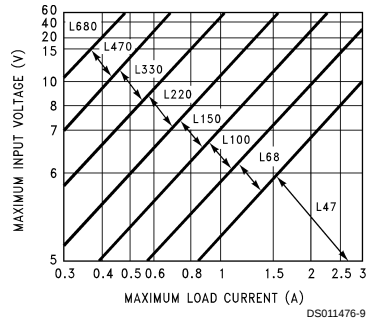
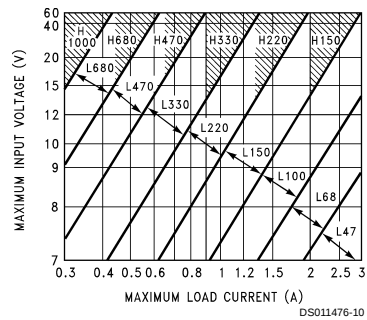
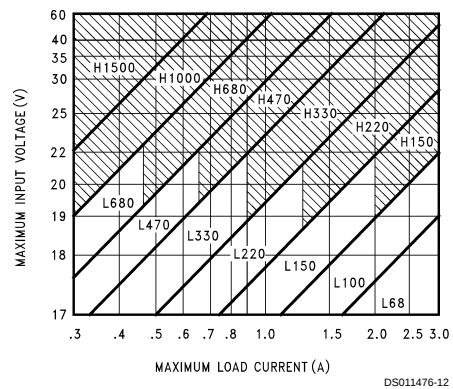
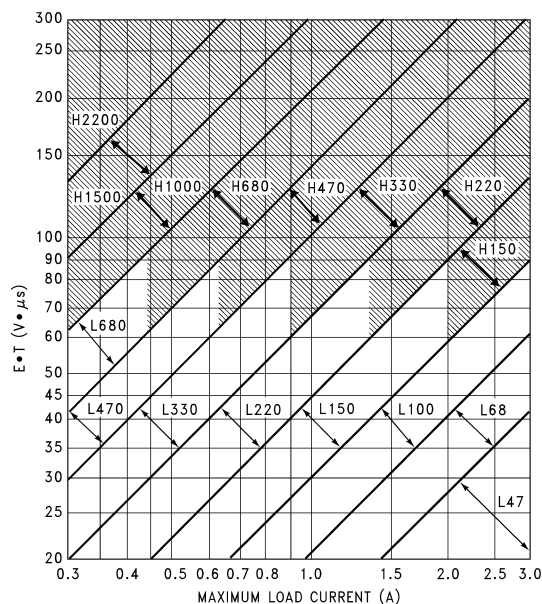

FIGURE 3. LM2576(HV)-3.3
FIGURE 4. LM2576(HV)-5.0
FIGURE 6. LM2576(HV)-15
FIGURE 7. LM2576(HV)-ADJ
Given: V_{OUT} = Regulated Output Voltage (3.3V, 5V, 12V, or 15V) $V_{IN(Max)}$ = Maximum Input Voltage $I_{LOAD(Max)}$ = Maximum Load Current 1. Inductor Selection (L1) A. Select the correct Inductor value selection guide from Figures 3, 4, 5 or Figure 6. (Output voltages of 3.3V, 5V, 12V or 15V respectively). For other output voltages, see the design procedure for the adjustable version. B. From the inductor value selection guide, identify the inductance region intersected by $V_{IN(Max)}$ and $I_{LOAD(Max)}$, and note the inductor code for that region. C. Identify the inductor value from the inductor code, and select an appropriate inductor from the table shown in Figure 3. Part numbers are listed for three inductor manufacturers. The inductor chosen must be rated for operation at the LM2576 switching frequency (52 kHz) and for a current rating of $1.15 \times I_{LOAD}$. For additional inductor information, see the inductor section in the Application Hints section of this data sheet. 2. Output Capacitor Selection (C_{OUT}) A. The value of the output capacitor together with the inductor defines the dominate pole-pair of the switching regulator loop. For stable operation and an acceptable output ripple voltage, (approximately 1% of the output voltage) a value between 100 μF and 470 μF is recommended. B. The capacitor's voltage rating should be at least 1.5 times greater than the output voltage. For a 5V regulator, a rating of at least 8V is appropriate, and a 10V or 15V rating is recommended. Higher voltage electrolytic capacitors generally have lower ESR numbers, and for this reason it may be necessary to select a capacitor rated for a higher voltage than would normally be needed. 3. Catch Diode Selection (D1) A. The catch-diode current rating must be at least 1.2 times greater than the maximum load current. Also, if the power supply design must withstand a continuous output short, the diode should have a current rating equal to the maximum current limit of the LM2576. The most stressful condition for this diode is an overload or shorted output condition. B. The reverse voltage rating of the diode should be at least 1.25 times the maximum input voltage. 4. Input Capacitor (C_{IN}) An aluminum or tantalum electrolytic bypass capacitor located close to the regulator is needed for stable operation.	Given: $V_{OUT} = 5V$ $V_{IN(Max)} = 15V$ $I_{LOAD(Max)} = 3A$ 1. Inductor Selection (L1) A. Use the selection guide shown in Figure 4. B. From the selection guide, the inductance area intersected by the 15V line and 3A line is L100. C. Inductor value required is 100 μH. From the table in Figure 3. Choose AIE 415-0930, Pulse Engineering PE92108, or Renco RL2444. 2. Output Capacitor Selection (C_{OUT}) A. $C_{OUT} = 680 \mu F$ to 2000 μF standard aluminum electrolytic. B. Capacitor voltage rating = 20V. 3. Catch Diode Selection (D1) A. For this example, a 3A current rating is adequate. B. Use a 20V 1N5823 or SR302 Schottky diode, or any of the suggested fast-recovery diodes shown in Figure 8. 4. Input Capacitor (C_{IN}) A 100 μF, 25V aluminum electrolytic capacitor located near the input and ground pins provides sufficient bypassing.
2. Inductor Selection (L1) A. Calculate the inductor Volt • microsecond constant, $E \cdot T$ ($V \cdot \mu s$), from the following formula: $E \cdot T = (V_{IN} - V_{OUT}) \frac{V_{OUT}}{V_{IN}} \cdot \frac{1000}{F \text{ (in kHz)}} (V \cdot \mu s)$ B. Use the $E \cdot T$ value from the previous formula and match it with the $E \cdot T$ number on the vertical axis of the Inductor Value Selection Guide shown in Figure 7. C. On the horizontal axis, select the maximum load current. D. Identify the inductance region intersected by the $E \cdot T$ value and the maximum load current value, and note the inductor code for that region. E. Identify the inductor value from the inductor code, and select an appropriate inductor from the table shown in Figure 9. Part numbers are listed for three inductor manufacturers. The inductor chosen must be rated for operation at the LM2576 switching frequency (52 kHz) and for a current rating of $1.15 \times I_{LOAD}$. For additional inductor information, see the inductor section in the application hints section of this data sheet. 3. Output Capacitor Selection (C_{OUT}) A. The value of the output capacitor together with the inductor defines the dominate pole-pair of the switching regulator loop. For stable operation, the capacitor must satisfy the following requirement: $C_{OUT} \geq 13,300 \frac{V_{IN(Max)}}{V_{OUT} \cdot L(\mu H)} (\mu F)$ The above formula yields capacitor values between 10 μF and 2200 μF that will satisfy the loop requirements for stable operation. But to achieve an acceptable output ripple voltage, (approximately 1% of the output voltage) and transient response, the output capacitor may need to be several times larger than the above formula yields. B. The capacitor's voltage rating should be at least 1.5 times greater than the output voltage. For a 10V regulator, a rating of at least 15V or more is recommended. Higher voltage electrolytic capacitors generally have lower ESR numbers, and for this reason it may be necessary to select a capacitor rate for a higher voltage than would normally be needed. 4. Catch Diode Selection (D1) A. The catch-diode current rating must be at least 1.2 times greater than the maximum load current. Also, if the power supply design must withstand a continuous output short, the diode should have a current rating equal to the maximum current limit of the LM2576. The most stressful condition for this diode is an overload or shorted output. See diode selection guide in Figure 8. B. The reverse voltage rating of the diode should be at least 1.25 times the maximum input voltage. 5. Input Capacitor (C_{IN}) An aluminum or tantalum electrolytic bypass capacitor located close to the regulator is needed for stable operation.	2. Inductor Selection (L1) A. Calculate $E \cdot T$ ($V \cdot \mu s$) $E \cdot T = (25 - 10) \cdot \frac{10}{25} \cdot \frac{1000}{52} = 115 V \cdot \mu s$ B. $E \cdot T = 115 V \cdot \mu s$ C. $I_{LOAD(Max)} = 3A$ D. Inductance Region = H150 E. Inductor Value = 150 μH Choose from AIE part #415-0936 Pulse Engineering part #PE-531115, or Renco part #RL2445. 3. Output Capacitor Selection (C_{OUT}) $C_{OUT} > 13,300 \frac{25}{10 \cdot 150} = 22.2 \mu F$ However, for acceptable output ripple voltage select $C_{OUT} \geq 680 \mu F$ $C_{OUT} = 680 \mu F$ electrolytic capacitor 4. Catch Diode Selection (D1) A. For this example, a 3.3A current rating is adequate. B. Use a 30V 31DQ03 Schottky diode, or any of the suggested fast-recovery diodes in Figure 8. 5. Input Capacitor (C_{IN}) A 100 μF aluminum electrolytic capacitor located near the input and ground pins provides sufficient bypassing.
The inductor value selection guides in *Figure 3* through *Figure 7* were designed for buck regulator designs of the continuous inductor current type. When using inductor values shown in the inductor selection guide, the peak-to-peak inductor ripple current will be approximately 20% to 30% of the maximum DC current. With relatively heavy load currents, the circuit operates in the continuous mode (inductor current always flowing), but under light load conditions, the circuit will be forced to the discontinuous mode (inductor current falls to zero for a period of time). This discontinuous mode of operation is perfectly acceptable. For light loads (less than approximately 300 mA) it may be desirable to operate the regulator in the discontinuous mode, primarily because of the lower inductor values required for the discontinuous mode.